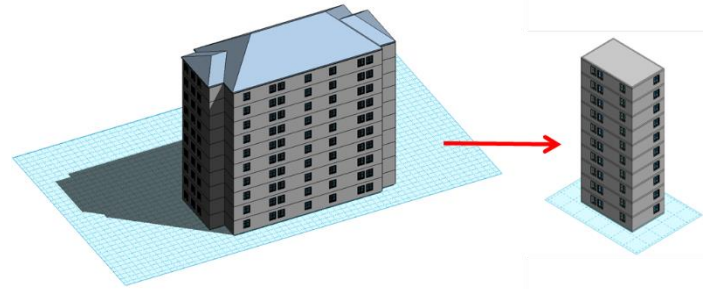

Figure 3: Conceptual sketch of CFS-NHERI 10-story CFS-framed archetype (left) and test building (right)
12.2 m x 7.6 m (40 ft x 25 ft) was selected and redesigned as the test building, see Figure 3.